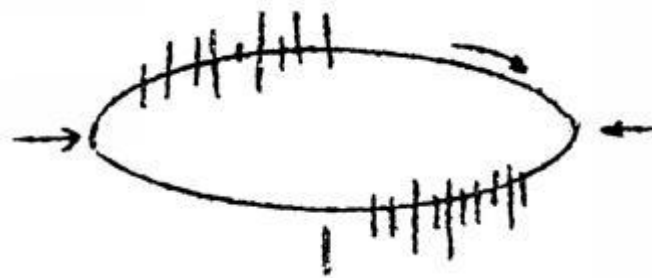

Figure 5
(1) Typical internal bubble partial discharge (see Figure 5), waveform characteristics: a discharge is mainly shown in the test voltage from zero to peak within two elliptical phase limits. B when the initial voltage U_I , the discharge usually occurs near the peak value. When the test voltage exceeds U_I , the discharge extends to the zero position. C the discharge times and amplitudes of the two opposite half cycles are approximately the same (the maximum difference is 3:1). The discharge waveform can be distinguished.